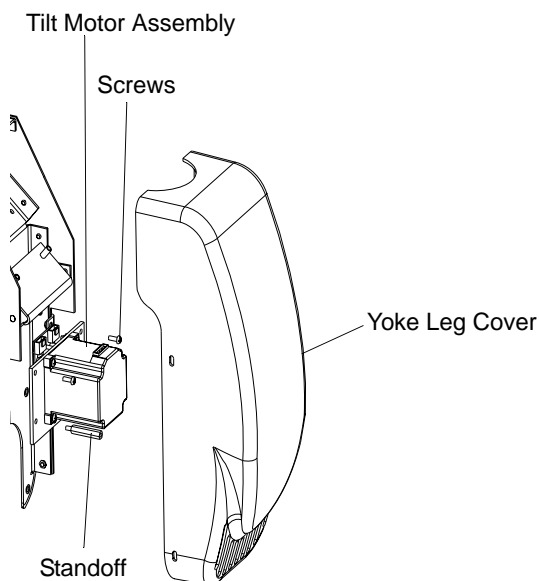

Figure 2-15: Tilt Motor Assembly Replacement
- Step 2. At tilt-side leg, remove yoke leg cover by removing four (two on each side) 6-32×5/16" PTB screws. Figure 2-15. To find tilt-side leg, refer to page 8.